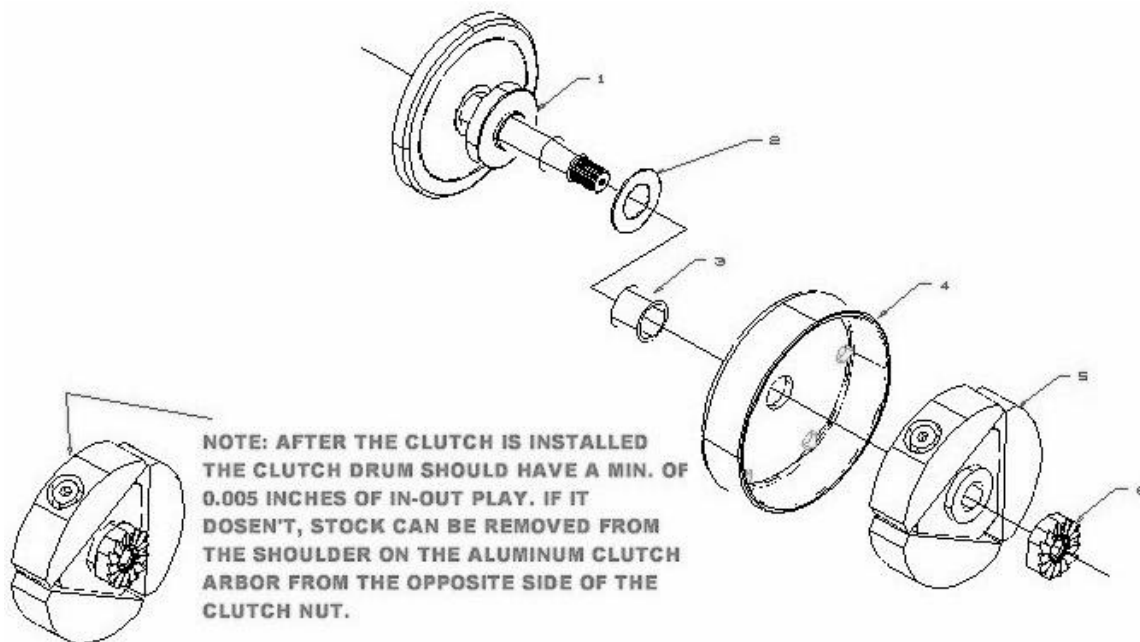

Figure 16, Clutch Assembly Drawing
7. Apply high strength (red) thread locking agent to the threads and install the nut and torque to 40 ft-lb (54Nm) with the special socket (see figure 16).